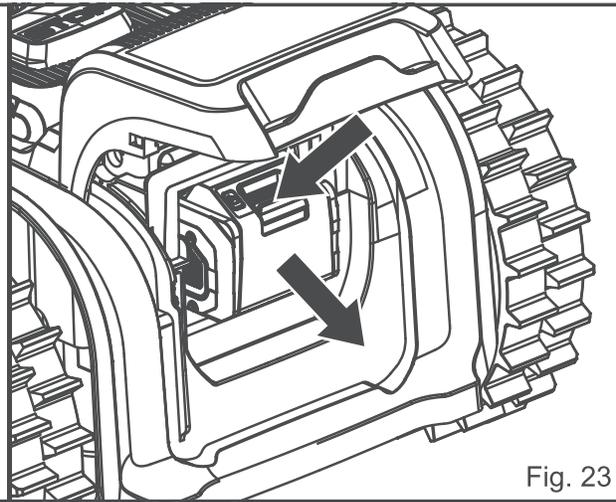

Fig. 23
- Press the release button on the battery pack, grasp the battery pack firmly and pull out of the battery compartment (Fig. 23).